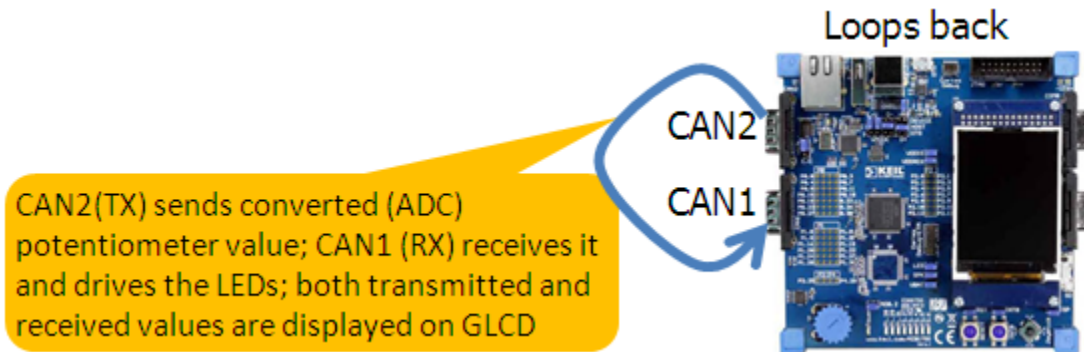

Figure 2 Block diagram of example 1.
- CAN Transceiver (a separate chip on the MCB1700 board, shown in Fig.2)